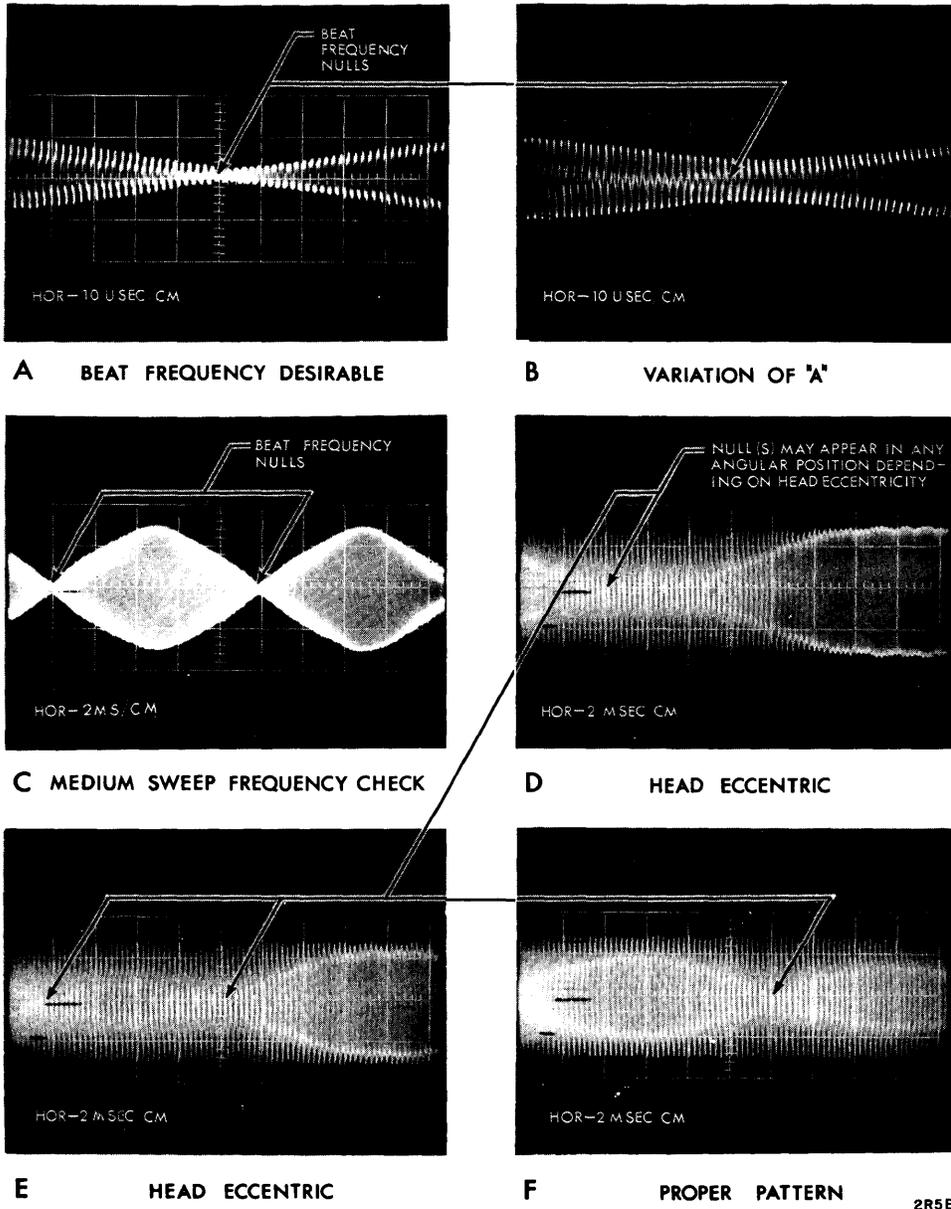

Figure 6-8. Head/Arm Adjustment
14. Adjust the oscilloscope for a stable pattern. The pattern should be similar to Figure 6-8, part C.
16. Determine which way the head/arm must be moved to appear as shown on Figure 6-8, part C. Detent the carriage at Track 73.
19. Set the oscilloscope to display one complete revolution of the disk (2 ms/cm). The beat frequency display will now be seen as a bright pattern or envelope of nulls within the all "1's" frequency pattern, Figure 6-8, part D or E.
20. Slowly adjust the head/arm assembly toward the spindle. The envelopes of nulls will come to an absolute null at one point and then will develop into a pair of absolute nulls with lobes of greater amplitude between them. The head/arm is properly aligned over Track 73 when the maximum amplitude of the two envelopes is equal to within 20 percent, Figure 6-8, part F. Tighten the two adjacent wrenching nuts in the head/arm clamp.